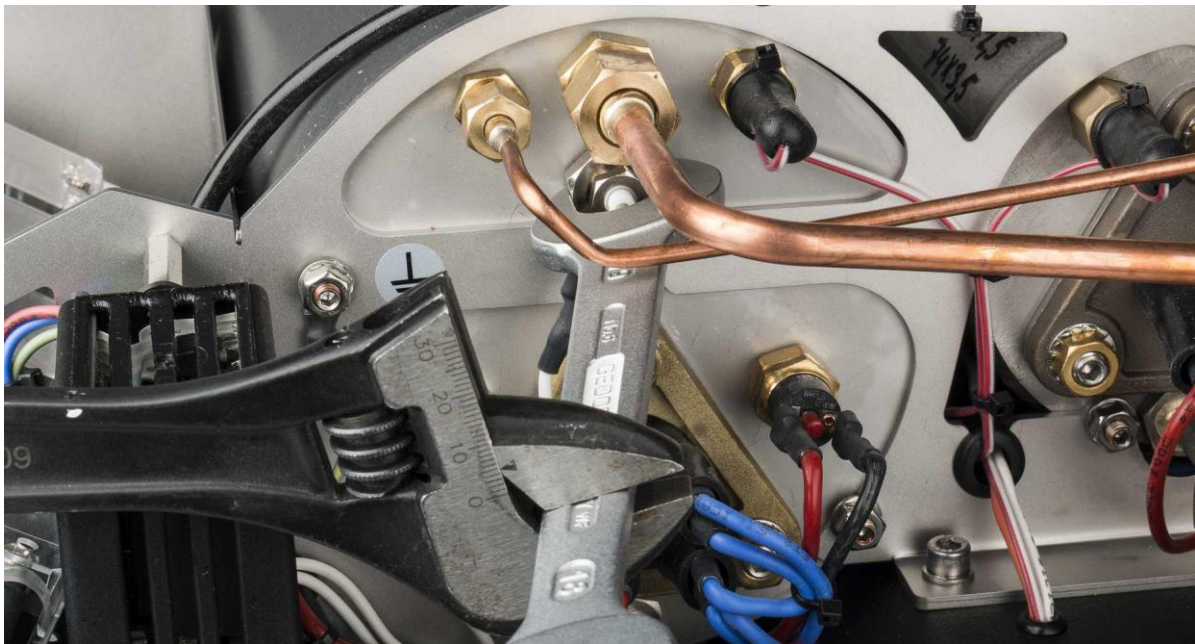

Figure M 14. Showing unconventional approach to remove operating level probe.
7. Put a 19 mm spanner perpendicular on the outer fitting of the probe. With an adjustable spanner on the 19 mm spanner, twist the fitting from the boiler (see *Figure M 14*).